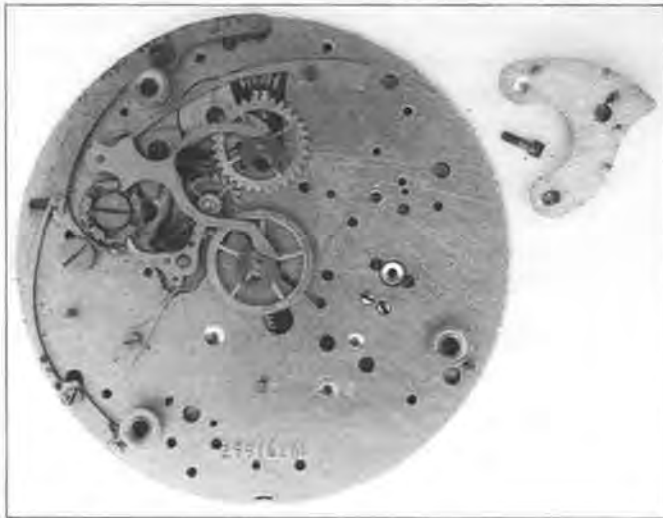

Figure 6
Step 4. Remove the seconds wheel and minute recording wheel cock by first removing the cock screw. Figure 6 shows the cock after its removal.